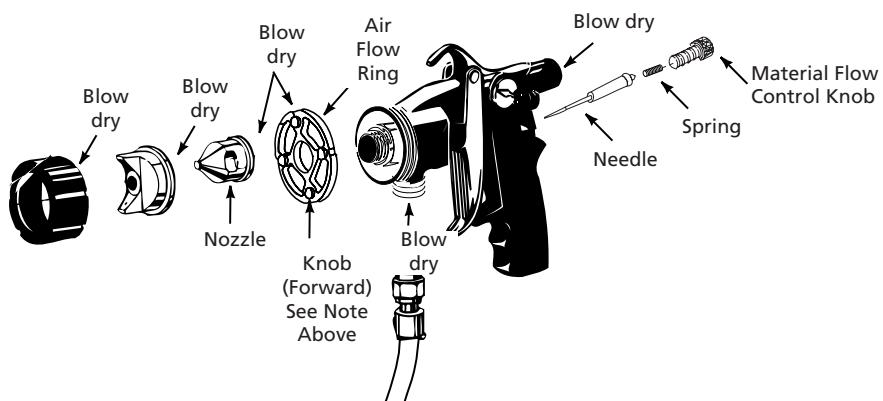

Figure 18 - Blow Drying Components
5. Reinstall the components in reverse order of disassembly (See Figure 18). Always install nozzle before installing the needle to prevent needle damage.
6. When the gun and all parts are thoroughly cleaned, use the turbine hose to dry the parts and blow the passages dry. Thorough drying of the gun and all components prior to reassembly prevents coating contamination during the next operation of the unit, and inhibits oxidation of internal gun components (See Figure 18).
NOTICE The four raised knobs on the air flow ring must be facing forward (toward the nozzle) when assembled. (See Figure 18).